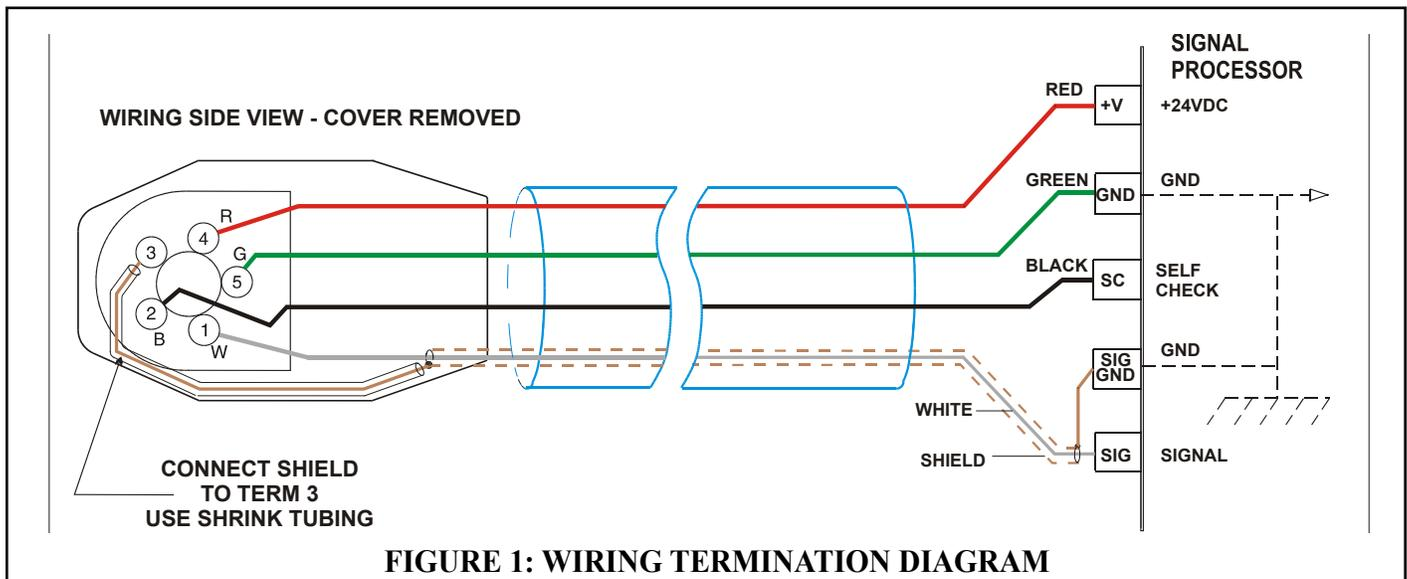

FIGURE 1: WIRING TERMINATION DIAGRAM
The diagram in Figure 1 shows the wiring of the viewing head connector to the signal processor using the recommended IRIS type C328 cable. This cable has a UL ITC rating and can be used in the US in hazardous locations. Note that the flame signal wire is shielded, and that the shield is terminated at both ends.
9. Proceed to wire the connector as follows: (Refer to the wiring diagram figure 1 for terminal locations.)
The cable at the signal processor end should be prepared in a similar way to the plug end, particularly the shield from the WHT wire. Follow the wiring connections as shown in the wiring diagram figure 1, making sure that the shield does not touch the other adjacent terminals.